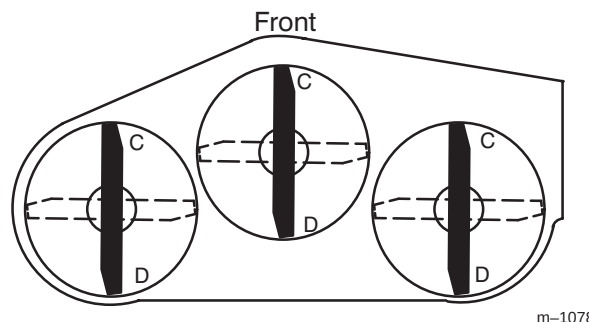
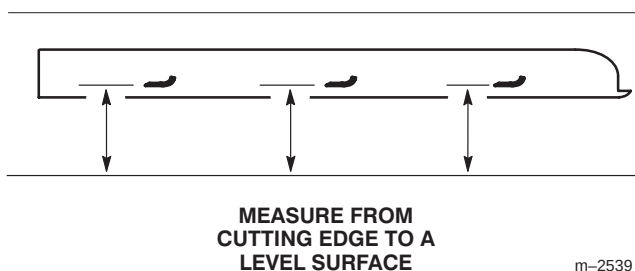

Figure 48
Figure 49
2. Position one blade front-to-rear (Fig. 48). Measure at "C" and "D" locations (Fig. 48) from a level surface to the cutting edge of the blade tips (Fig. 49).
4. Position the blades front-to-rear (Fig. 48). Measure at “C” and “D” locations (Fig. 48) from a level surface to the cutting edge of the blades (Fig. 49).